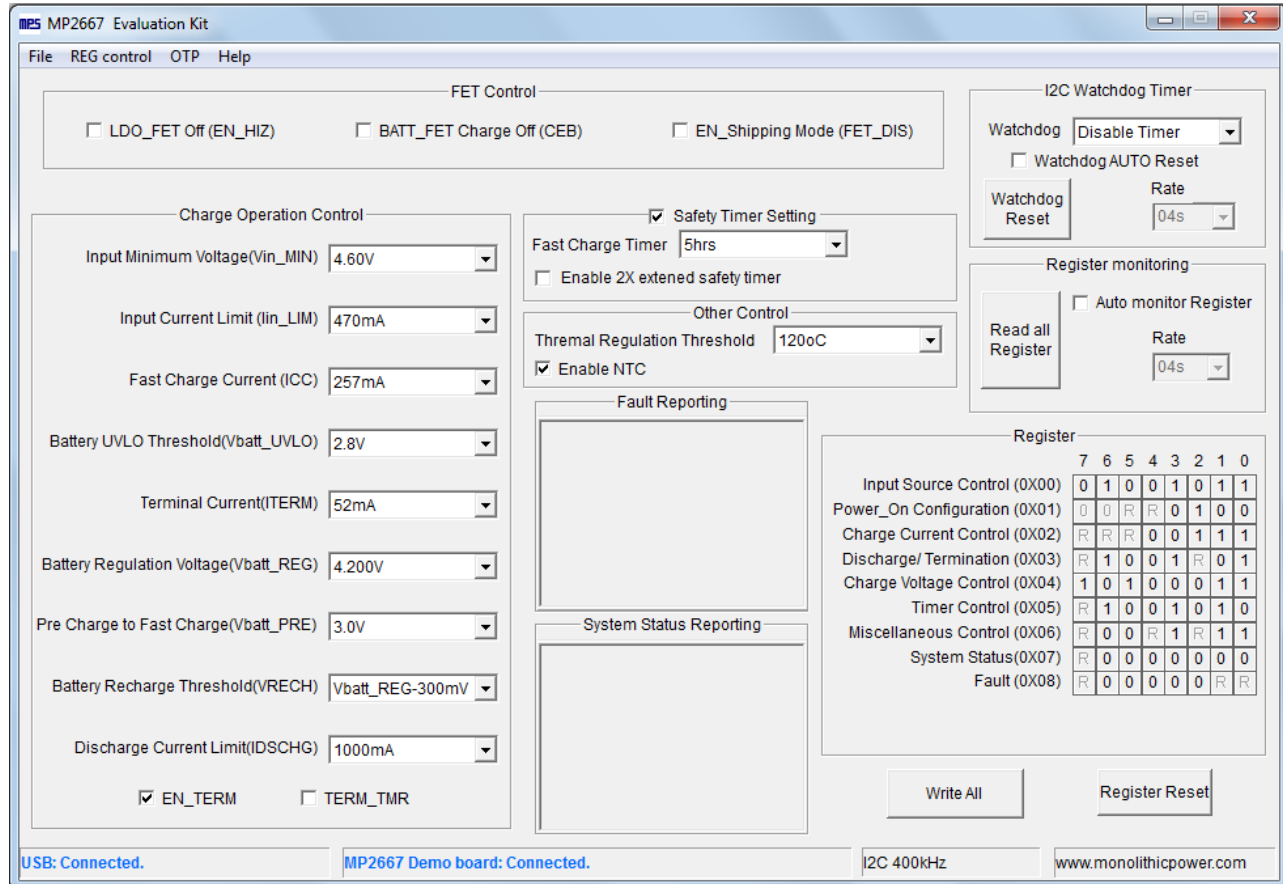

Figure 7: Appearance of USB and MP2667 EVB Board Show Connected
- If the connection is successful, both the USB and MP2667 Demo Board statuses will appear as “Connected” (see Figure 7).
2. Click the “Read All Registers” button to read the I²C register values. The default values are displayed (see Figure 7).